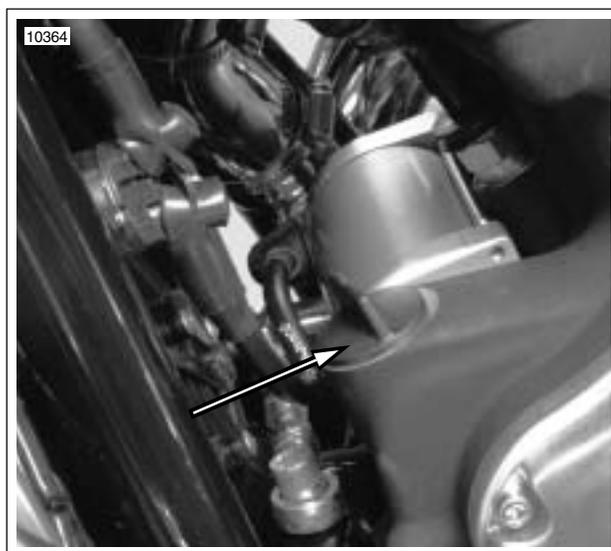

Figure 1-13. Dipstick/Filler Cap
2. See Figure 1-13. Oil filler cap with dipstick is located on the engine left side. Remove filler cap and dipstick and wipe dipstick clean.
3. See Figure 1-13. Unscrew filler cap (with attached dipstick) located at front of engine on left side. Remove filler cap and dipstick and wipe dipstick clean.
5. See Figure 1-13. Remove filler cap and check oil level on dipstick.
2. See Figure 1-13. Remove the oil filler plug/dipstick on left side.
7. See Figure 1-13. Select the grade of oil for the lowest temperature expected before next oil change. Refer to Table 1-1.